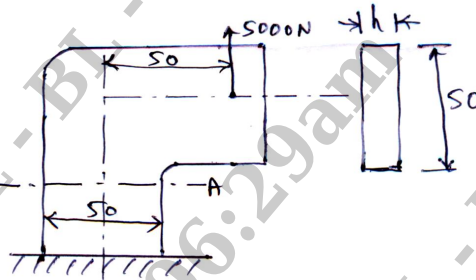

Fig.Q.1(b)
- b. Determine the required thickness of the steel bracket at section A-A when loaded as shown in Fig.Q.1(b) in order to limit the tensile stress to 100 N/mm^2 .